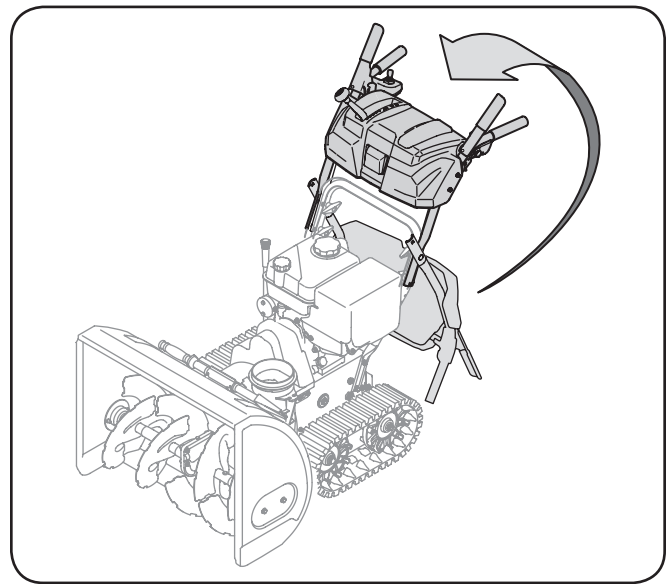

Figure 3-1
2. Remove the lower plastic wing nut and carriage bolt from each side of the upper handle; raise the upper handle assembly until it snaps over the lower handle. See Figure 3-1.